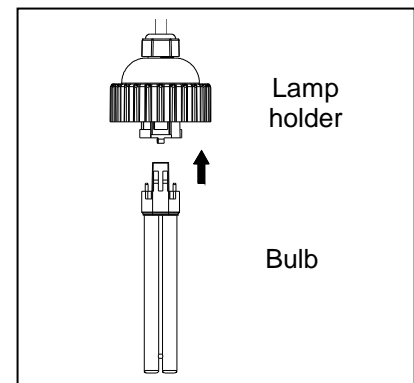

Fig. 10
10. Install the bulb into lamp holder. Fig. 10